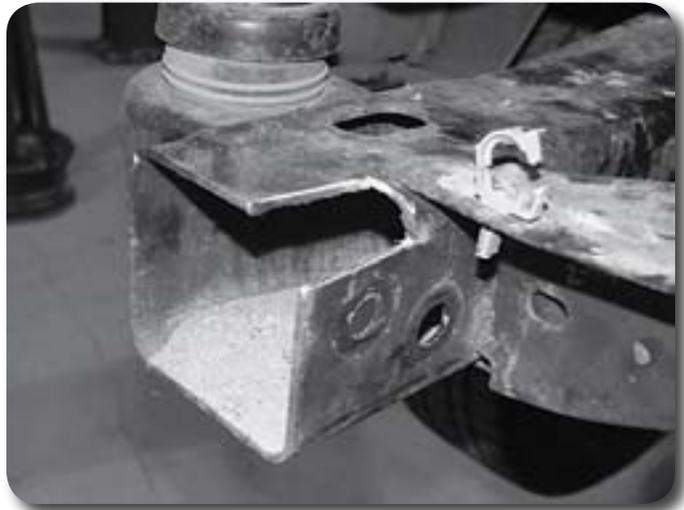

Figure 30
54. Measure down 1" from the top inside corner of the rear frame rail and mark. Measure toward the outside of the frame 1" and mark as well. Make cut marks that run back to frame crossmember. Cut top and inside of frame rail at marks, the end of the cut will align with the cross member that connects the frame rails **Figure 30**. Paint any bare metal to prevent corrosion.